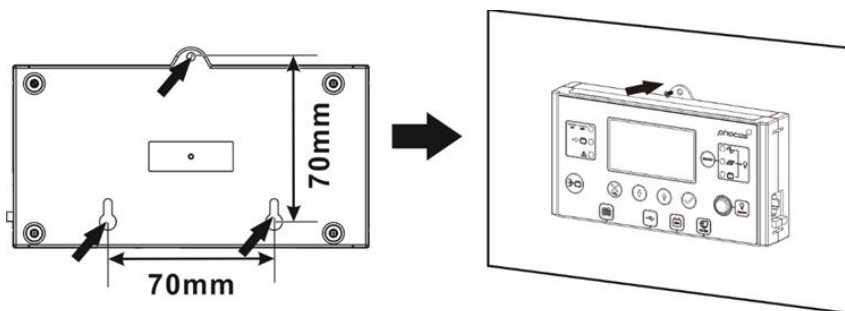

Fig. 12: Remote display mounting hole locations
- Drill the three mounting holes in the marked distances of 70 mm, 2.76 in into each other (Fig. 12, left). Use M3, size no. 4 diameter screws. The screw heads must be between 5 ~ 7 mm, 0.2 ~ 0.3 in. Screw the bottom two screws into the wall where the display module is to be mounted and let the screw heads protrude 2 mm, 0.08 in. from the wall. Slide the display down on the protruding screw heads. Now insert and tighten the third screw at the top (Fig. 12, right).